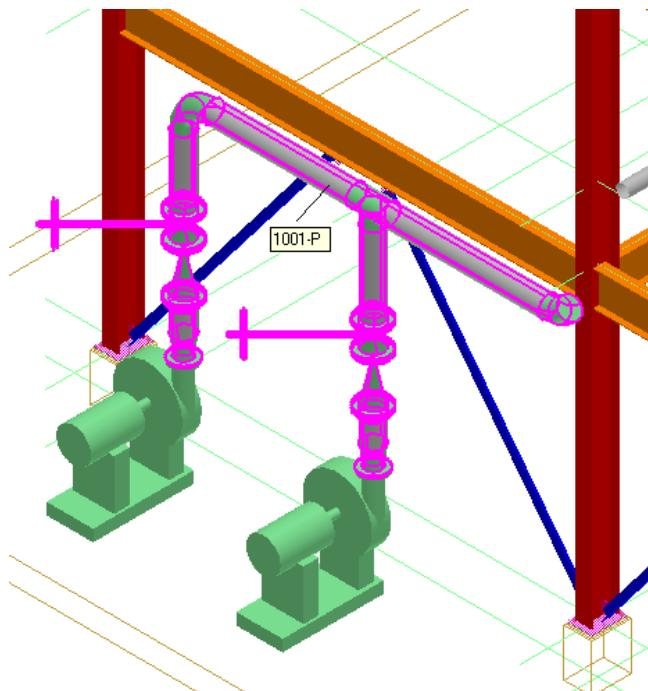

Figure 18. 22: Select Pipe Parts in Pipeline 1001-P
15. Use the **Inside fence** option on the **Common** toolbar to select all piping parts belonging to the pipeline **1001-P** and select the piping parts, as shown in Figure 18. 22.